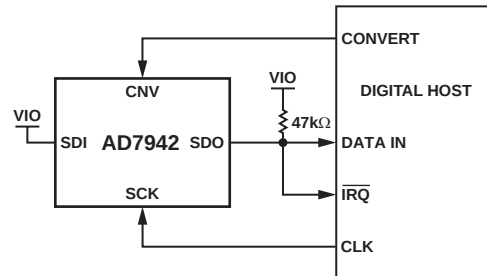
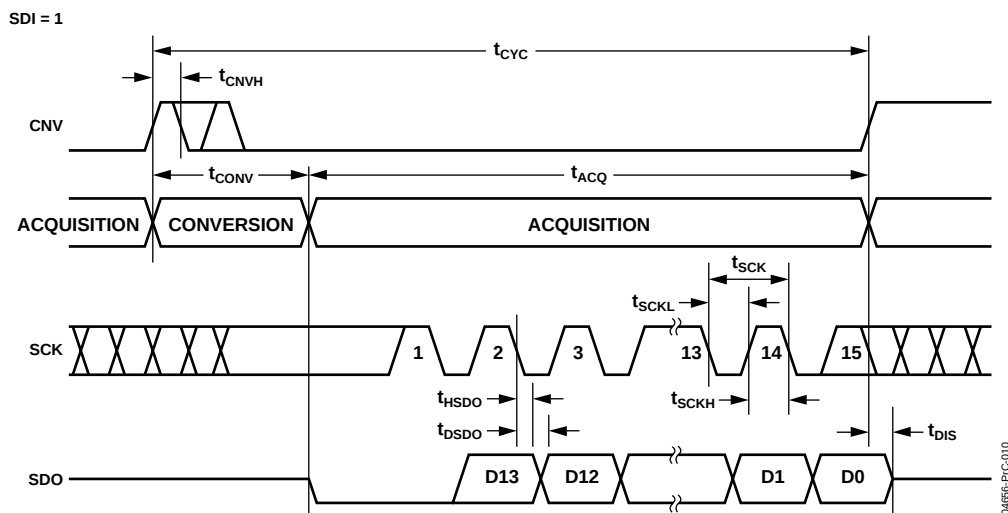
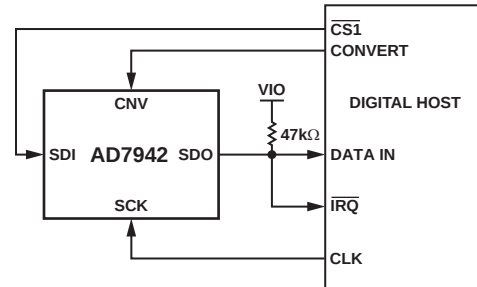
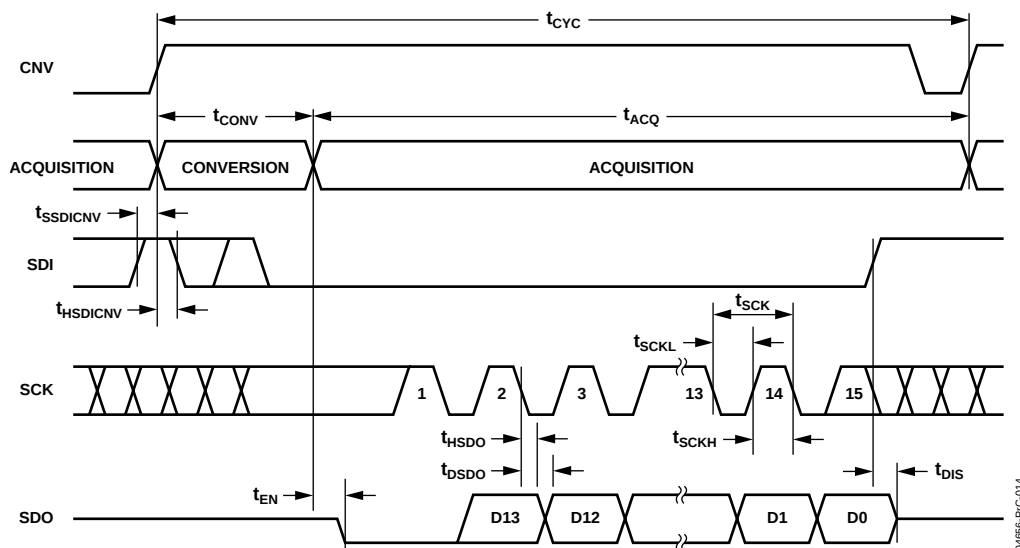

Figure 31. $\overline{CS}$ Mode 3-Wire with **BUSY** Indicator Connection Diagram (SDI High)
Figure 32. $\overline{CS}$ Mode 3-Wire with **BUSY** Indicator Serial Interface Timing (SDI High)
Figure 35. $\overline{CS}$ Mode 4-Wire with *BUSY* Indicator Connection Diagram
Figure 36. $\overline{CS}$ Mode 4-Wire with *BUSY* Indicator Serial Interface Timing
- In the $\overline{\text{CS}}$ mode, if CNV or SDI is low when the ADC conversion ends (Figure 32 and Figure 36).
The connection diagram is shown in Figure 31 and the corresponding timing is given in Figure 32.
The connection diagram is shown in Figure 35 and the corresponding timing is given in Figure 36.